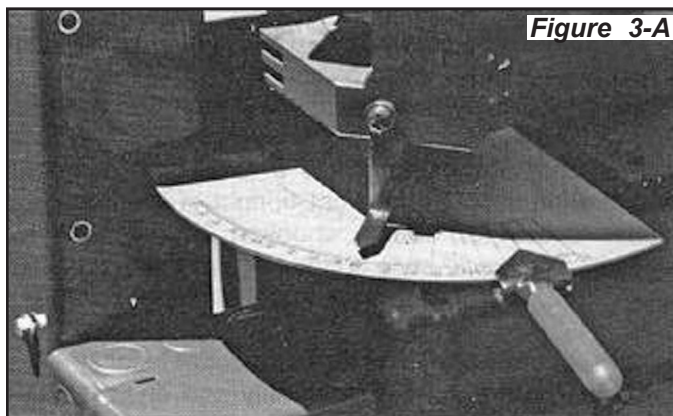

Figure 3-A
3. Advance the radius die forward until the depth-of-bend / pointer reads 90 degrees. (See figure 3-A)
4. Gently slide the automatic depth-of-bend switch handle back until the two pointers are lined up with each other. (See figure 3-B)